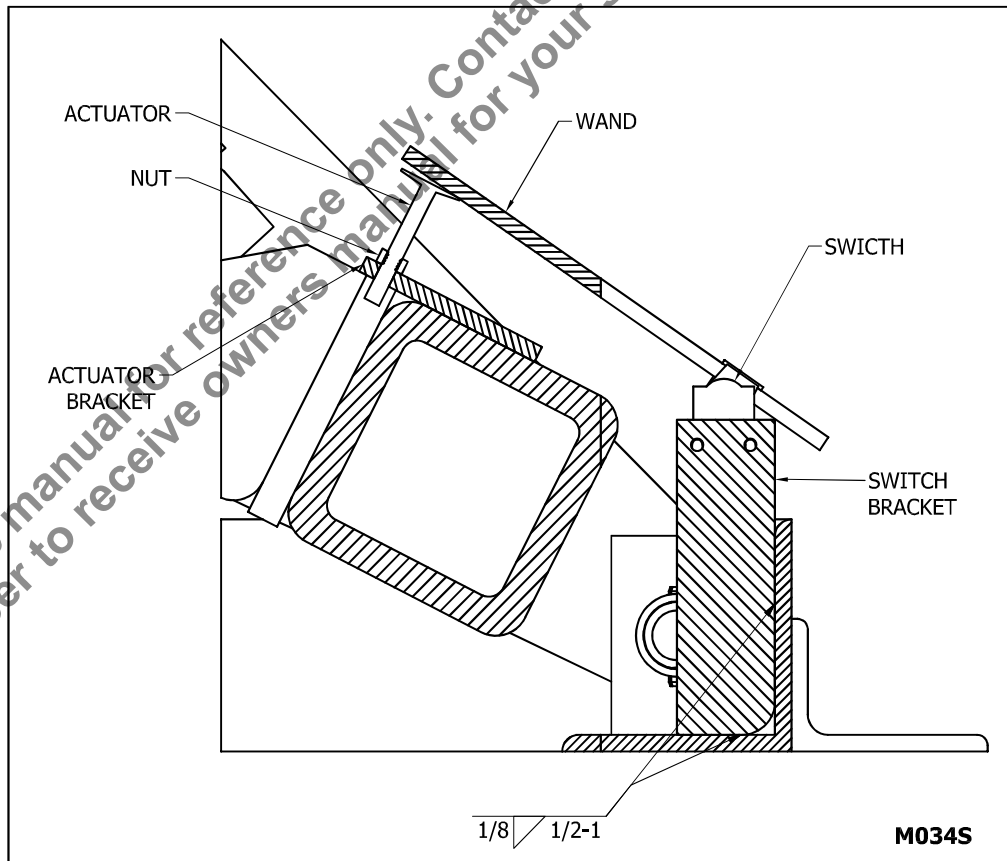

Figure 12: Switch & Actuator Bracket Side View
4. Weld the switch bracket to the inside surface of the frame (see "Figure 12: Switch & Actuator Bracket Side View" on page 19)